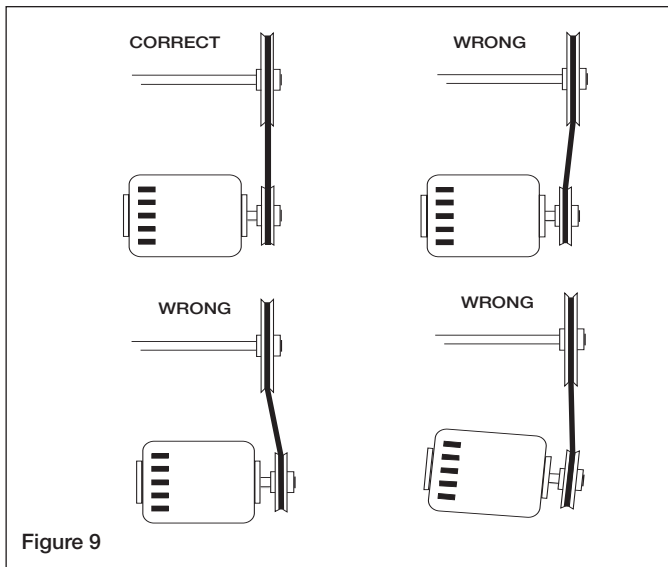

Figure 9
4. **For BSQ-M Fans:** If adjustments are made, it is very important to check the pulleys for proper alignment. Misaligned pulleys lead to excessive belt wear, vibration, noise, and power loss (see Figure 9).